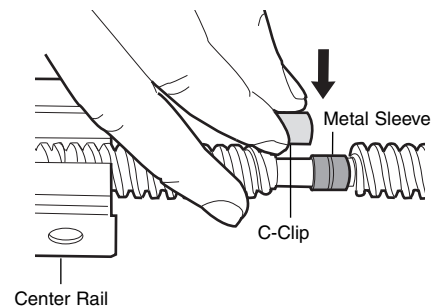

Figure 2
4. Extend the drive screw a few inches from the center rail, and slide the sleeve onto the long journal (Figure 2).